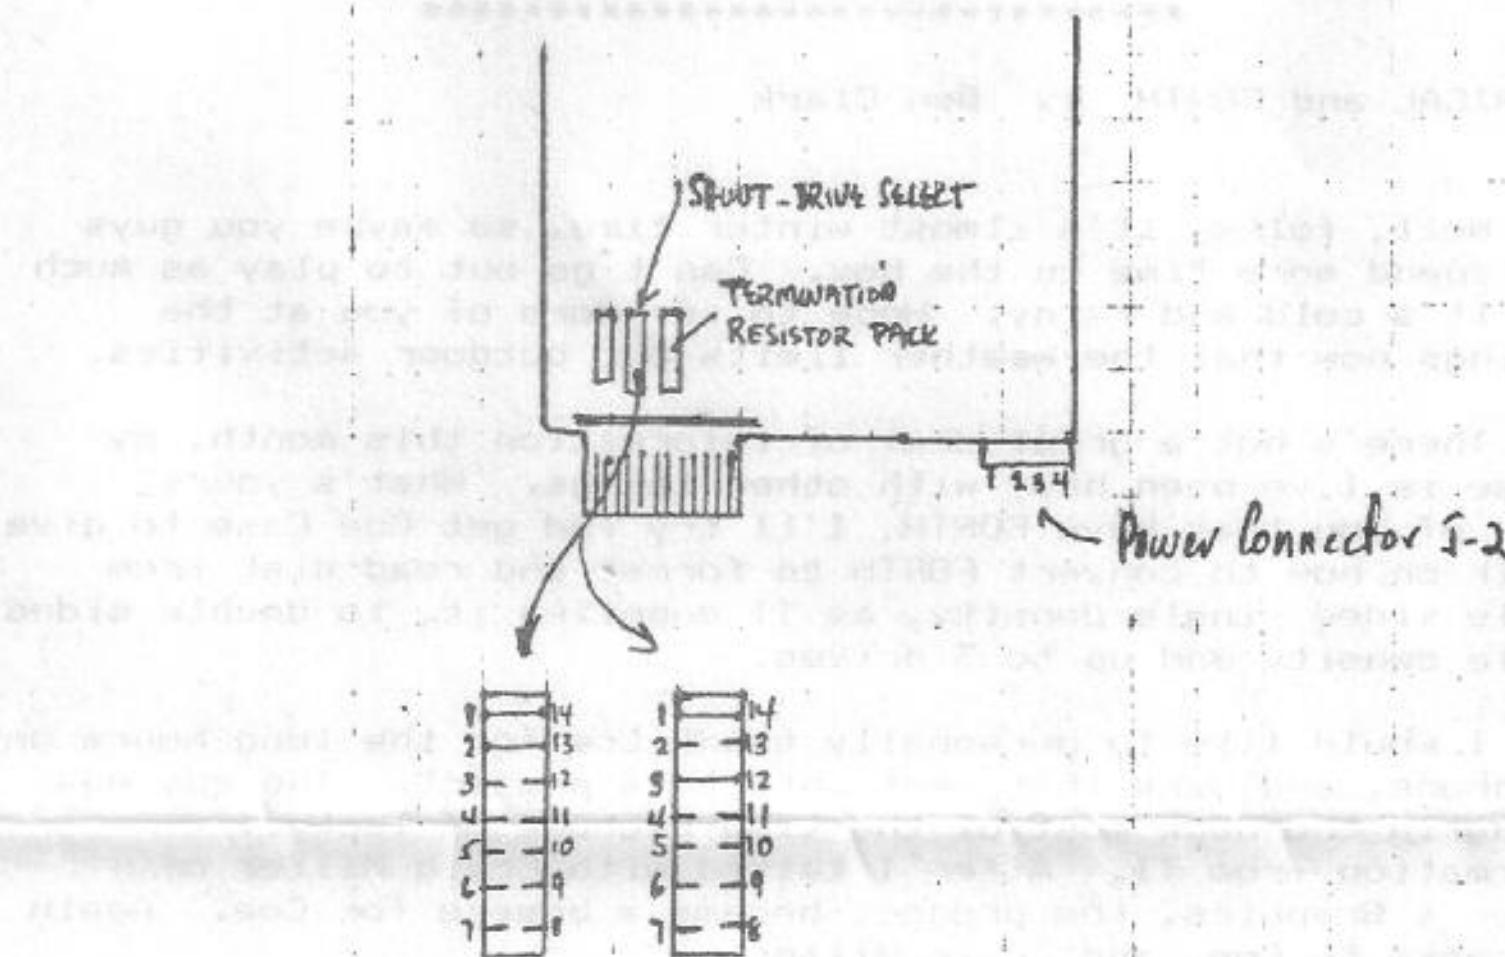

Fig. 3 Drive Select Connections.
6) Shunt Connections: For proper addressing of the drives by the controller, the shunt must be modified on drive #2. Leave drive #1 as furnished (check to make sure it is as shown in Fig.3). For drive #1, pins 1 to 14 and 2 to 13 are connected. For drive #2, pins 1 to 14 and 3 to 12 are connected. Break the connection between 2 and 13 on drive #2. The pin assembly can be unplugged (carefully) to make these mods. Punch out the 2 to 13 shunt with a small blade and re-solder the 3 to 12 connection. As furnished, the chip has all shunts open except 1 to 14 and 2 to 13. Make sure it is plugged back into the same sockets, since the female has 14 pins and the male has 12 pins.